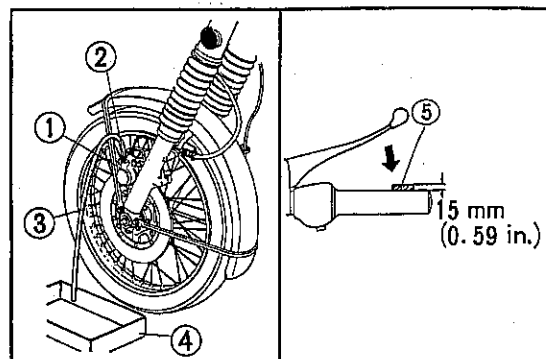

Fig. 33 ① Caliper ② Bleeder ③ Bleeder hose ④ Drip pan ⑤ Rubber
4. As shown in Fig. 33 attach a piece of rubber about 15mm thick to the end of the handle grip to decrease the stroke as measured at the tip of the handle lever. Pump the brake lever several times until pressure can be felt. Holding the lever tight, open the bleeder valve about $\frac{1}{2}$ turn and squeeze the lever all the way down.